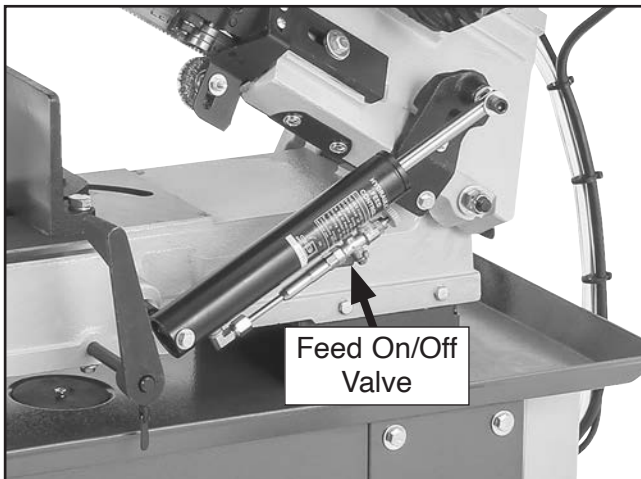

Figure 27. Location of feed on/off valve.
- Raise headstock, then close feed on/off valve to lock headstock in place (see **Figure 27**).